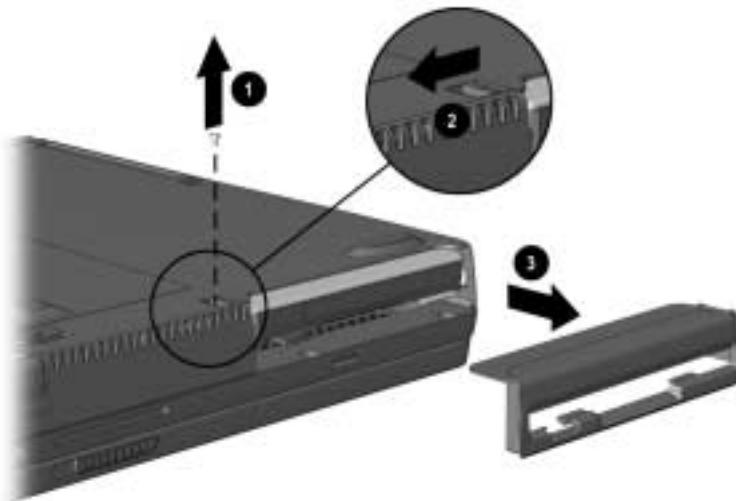

Figure 5-18. Removing the Diskette Drive Bezel
3. **(Armada V300 only)** Remove the screw 1 that secures the diskette drive bezel to the base enclosure (Figure 5-18).